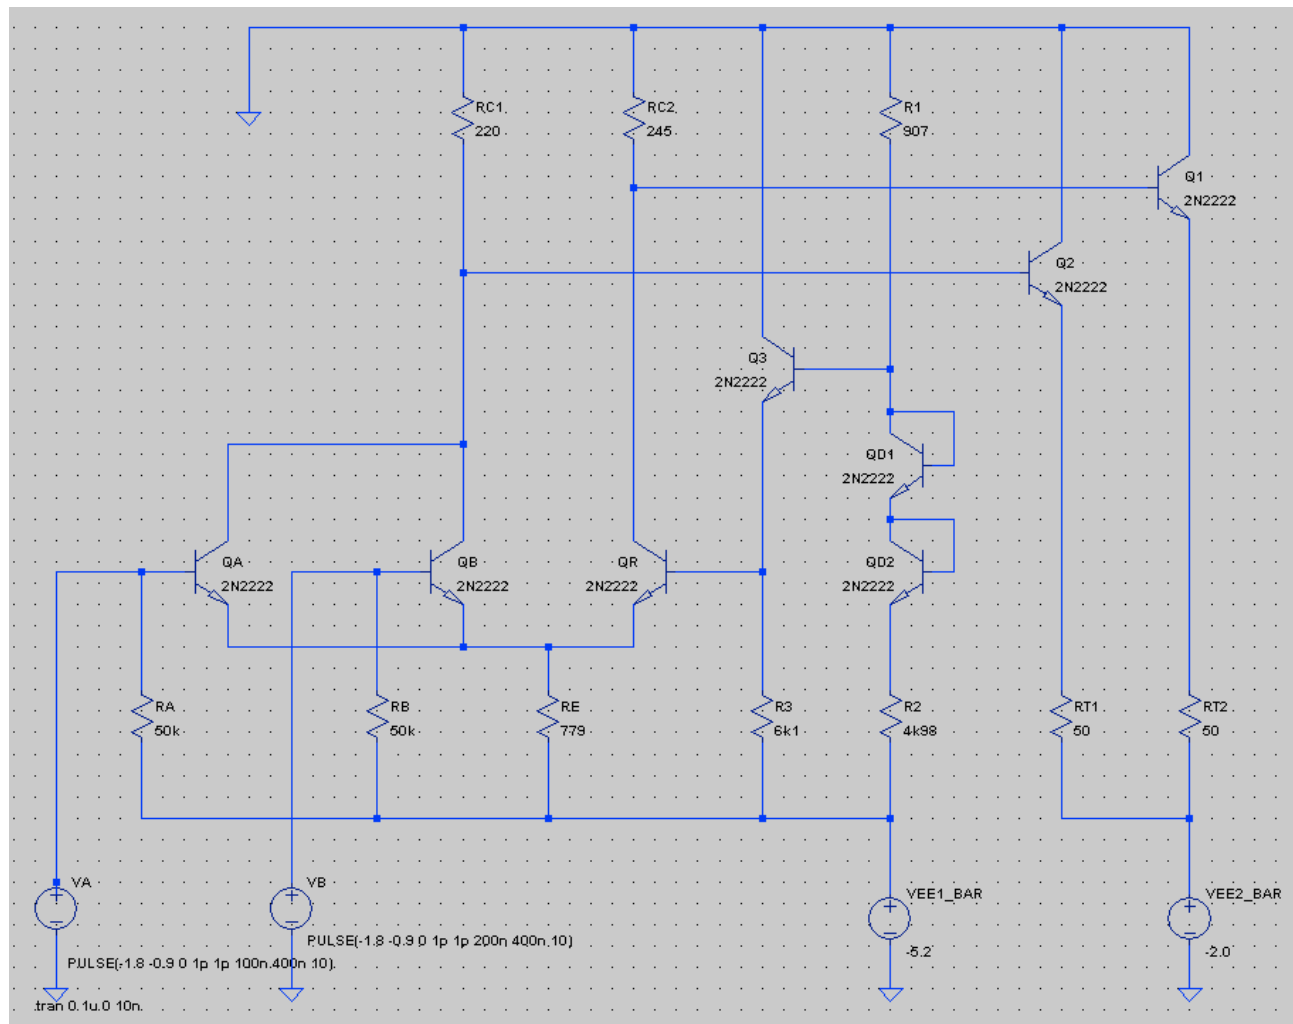
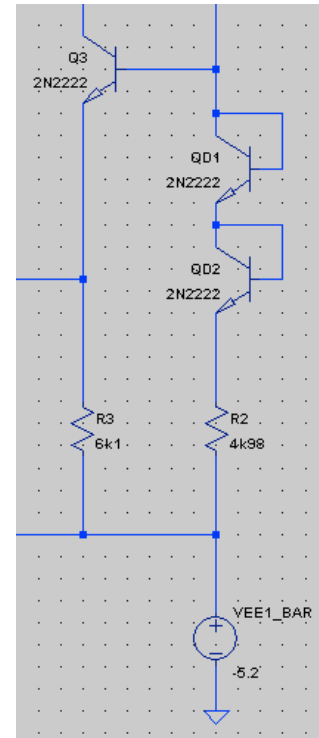

Figure 5: ECL logic gate and load.
Figure 6: ECL subcircuit.
3.1. Construct the 10K ECL circuit shown in Figure 5.
- (iv) What is the purpose of the sub-circuit consisting of components QD1, QD2 and R2 shown in Figure 6 (see also Figure 5)? Explain.